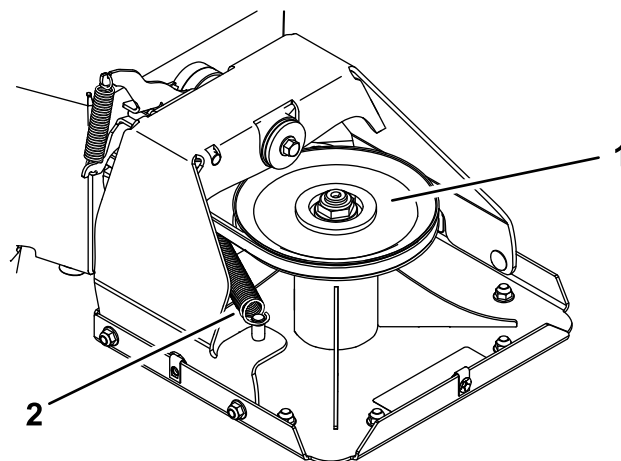
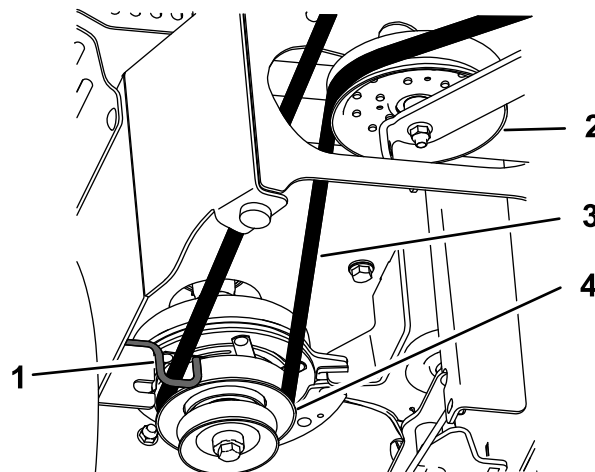

Figure 32
Figure 33
7. Detach the extension spring (Figure 32).
9. Route the new belt around the clutch pulley, through the belt guide, along the idler pulley, and around the deck pulley (Figure 32 and Figure 33).
10. Install the extension spring (Figure 32).